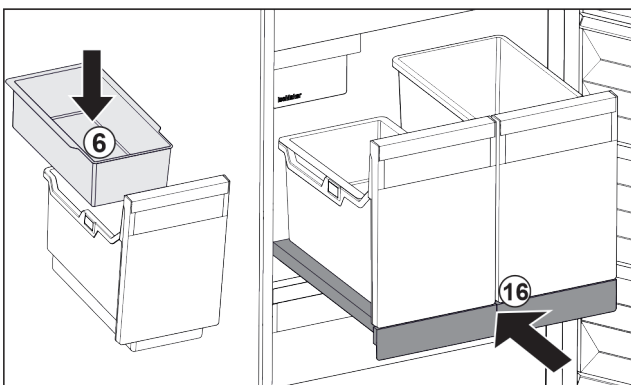

Fig. 100
- ▶ Insert hang-on tray Fig. 100 (6) for ice cubes.
- ▶ Slide in the pull-out board with container (IceTower). Fig. 100 (16)